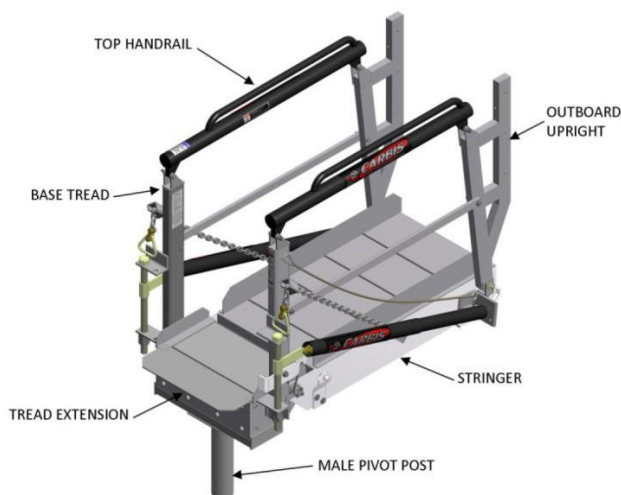
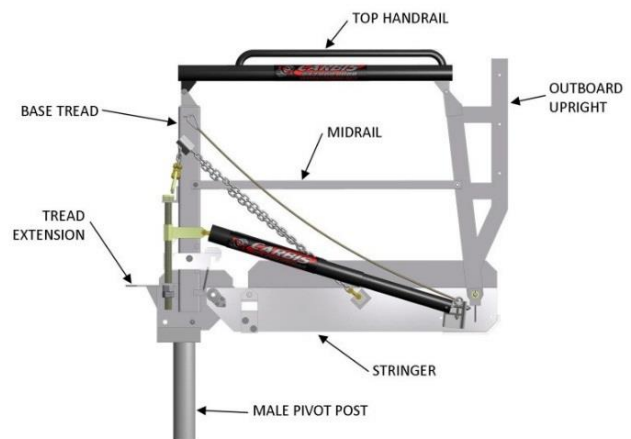

FIGURE 2-8
FIGURE 2-9
e) OPTIONAL TCG PIVOT MOUNT (SEE FIGURE 2-8 AND FIGURE 2-9)